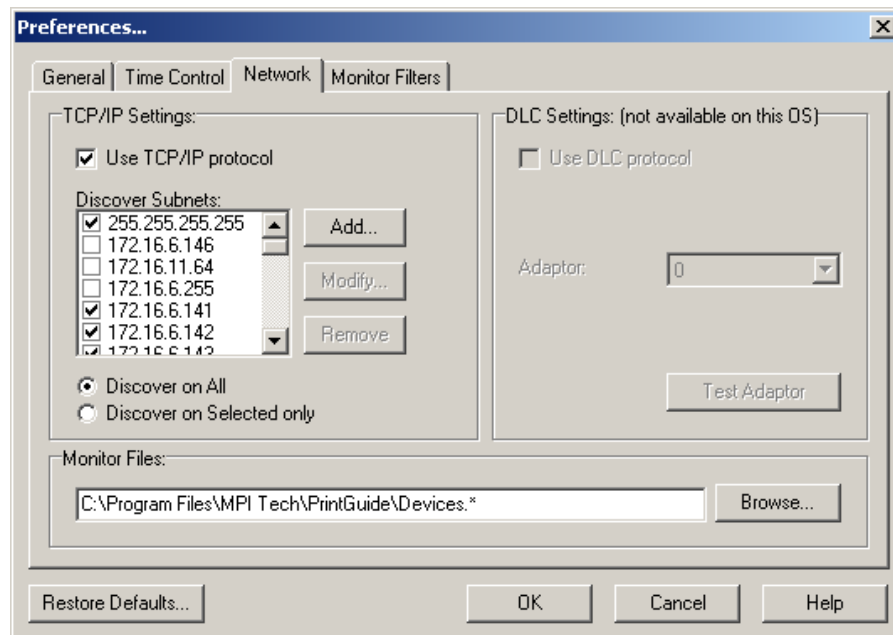

Figure 6
2. Click the **Network** tab (See Figure 6).